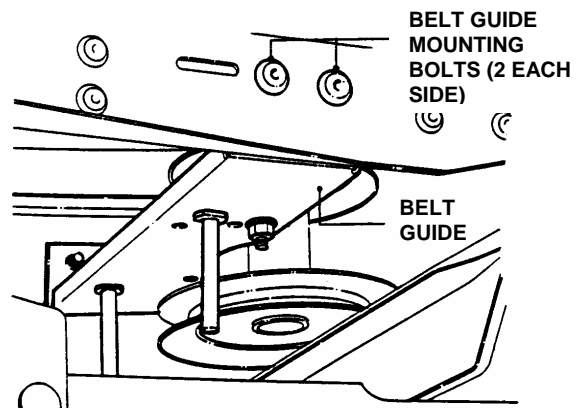

FIGURE 4.25
1. Remove two belt guide mounting bolts from each side of tractor frame. See Figure 4.25.